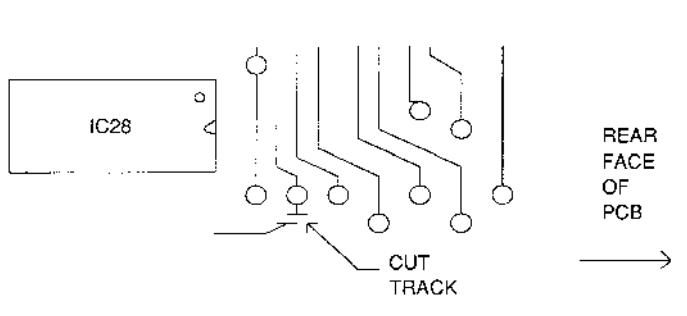

Figure 1 Position of the track
- 6 On Archimedes 305 and 310 machines with issue 1 PCBs, the LK12 position is not available and you need to cut a track (LA18). This track runs between 1C28 pin 18 and pin 24 of the ROM sockets. Figure 1 below shows the location of the track. You will need to re-make this track if you ever want to revert to RISC OS 2.